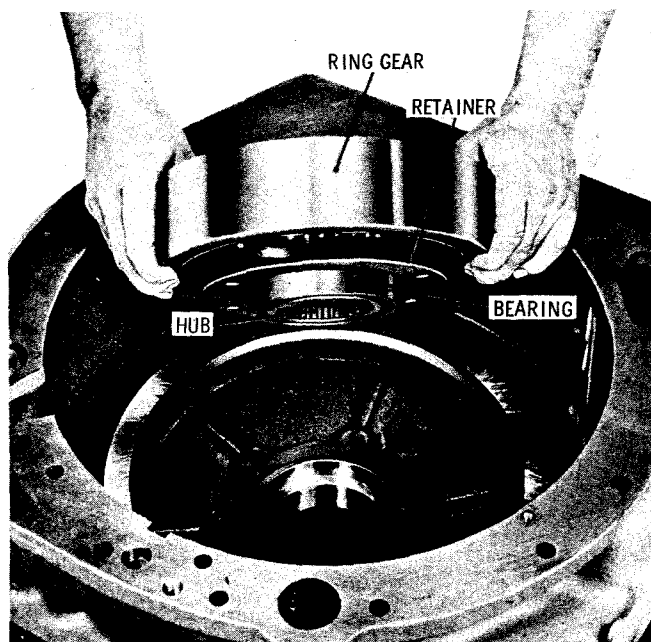

Fig. 5-81. Removing splitter ring gear and attached parts
(6) Remove, as a unit, the splitter ring gear, hub, bearing, and bearing retainer (fig. 5-81). Refer to paragraph 6-31 for rebuild of the splitter ring gear and hub assembly.